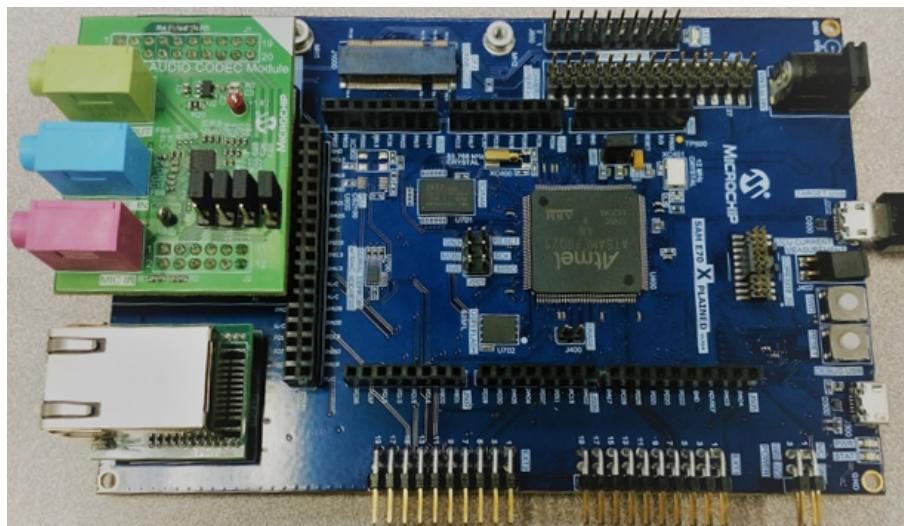

Figure 2: WM8904 Audio Codec Daughter Board on SAM E70 Xplained Ultra board
1. Connect headphones to the HP OUT jack of the WM8904 Audio Codec Daughter Board (see **Figure 2 below**).